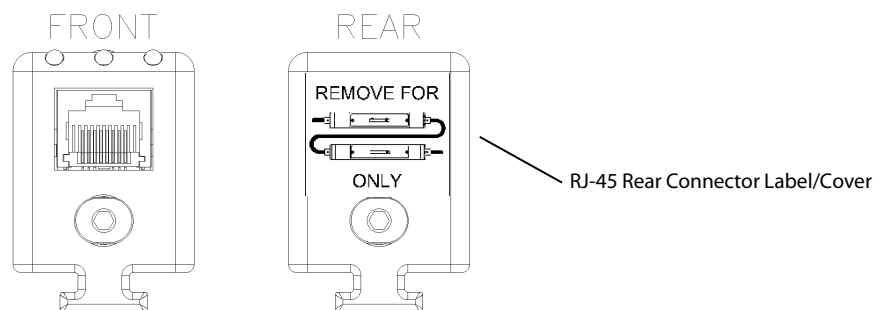

Figure 5. Front and Rear Connector Ends of RJ-45-Style Modular Sensor
6. **(THIS STEP IS FOR RJ-45-STYLE SENSORS ONLY):** On each RJ-45-styled sensor, there is a label on the rear endcap (opposite side as the sensor LEDs) that will need to be removed if interconnecting multiple sensors. See Figure 5.